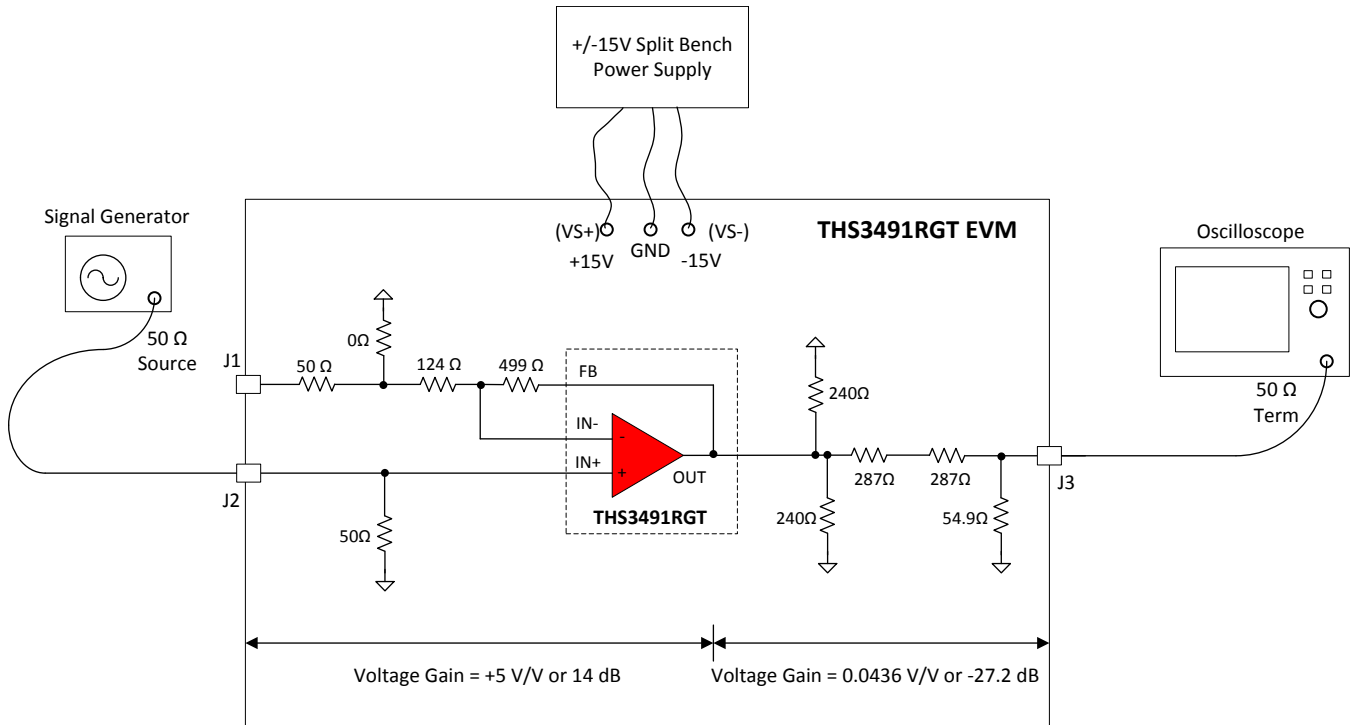
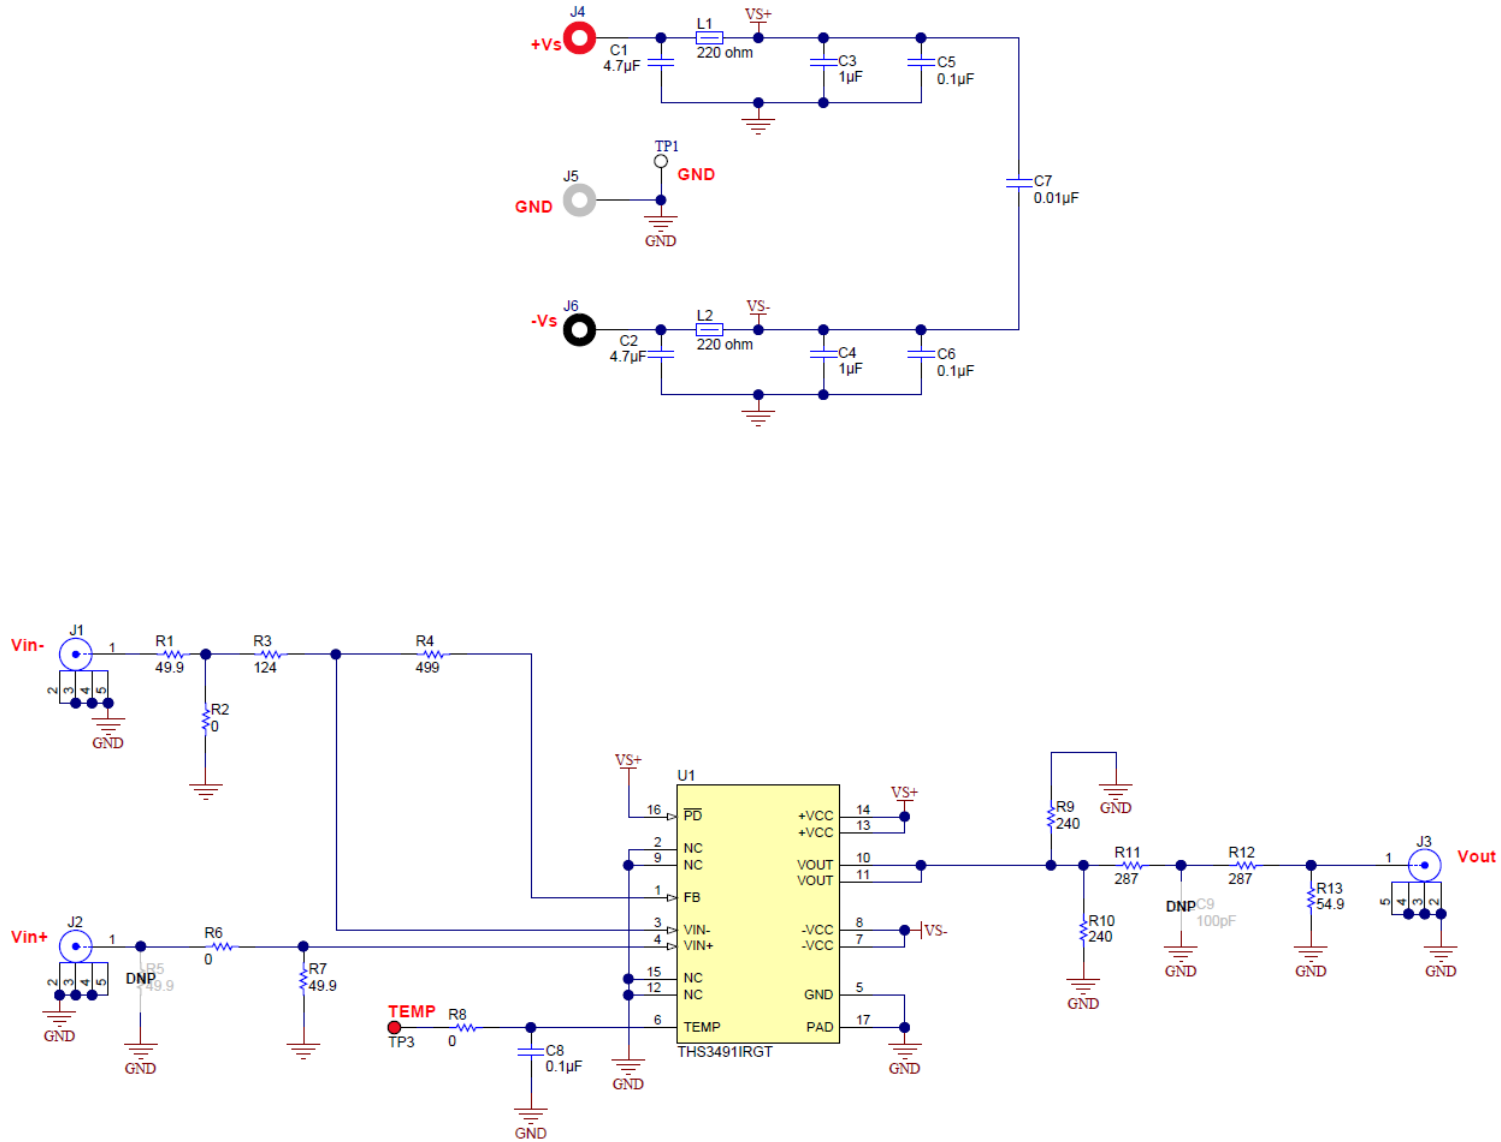

Figure 1. THS3491RGT EVM Default Configuration Setup Block Diagram
Figure 3. Full Schematic of the THS3491RGT EVM
As delivered, the EVM has a fully functional example circuit; just provide power supplies, a signal source, and a measuring instrument as shown in Figure 1. Some components, such as supply bypass capacitors and test points, are omitted on the application schematics of Figure 1 for clarity.
See Figure 3 for the default schematic diagram of the THS3491RGT EVM.
The THS3491RGT EVM default configuration is a single-ended input, single-ended output non-inverting gain of 5 from SMA input (J2) to the THS3491 device output pins as shown in Figure 1. The default configuration for non-inverting gain of 5 is determined by R3, and R4 in Figure 3. This gain is calculated according to Equation 1 that is given below for non-inverting op-amp.
3.2 Power Supply Setup (Reference Figure 1)
3.3 Input and Output Test Setup (Reference Figure 1)
Figure 3 illustrates the EVM schematic.